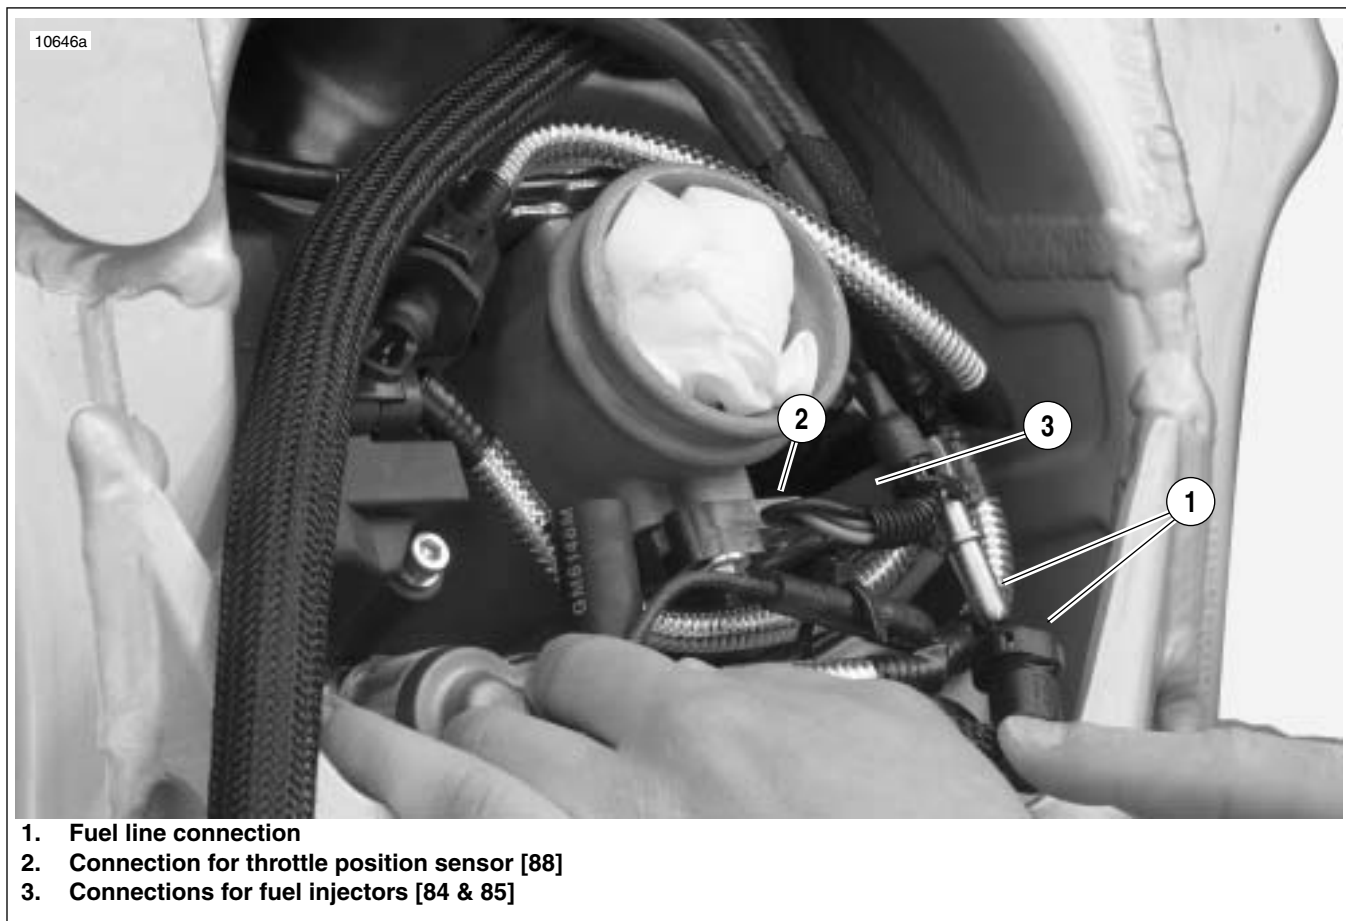

Figure 3-13. Fuel Line and DDFI Electrical Connections (Typical)
13. See Figure 3-13. Connect throttle position sensor [88].